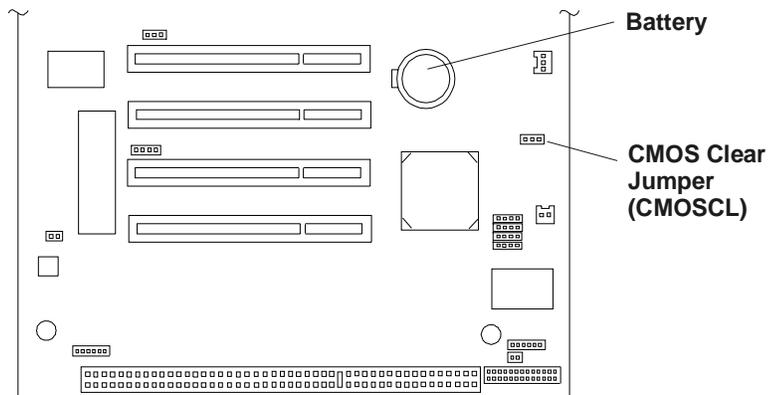

Figure 9-1. CMOS Clear Jumper Location
2. On the system board, locate the CMOSCL jumper. See Figure 9-1.